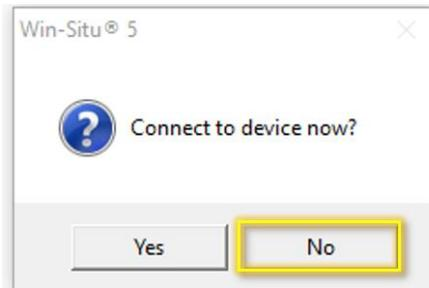

Figure 5. Connect to Device Pop-up Window
4. The pop-up window most users will experience is one asking if you would like to “**Connect to device now?**” pop-up window. Select “No” (**Figure 5**).